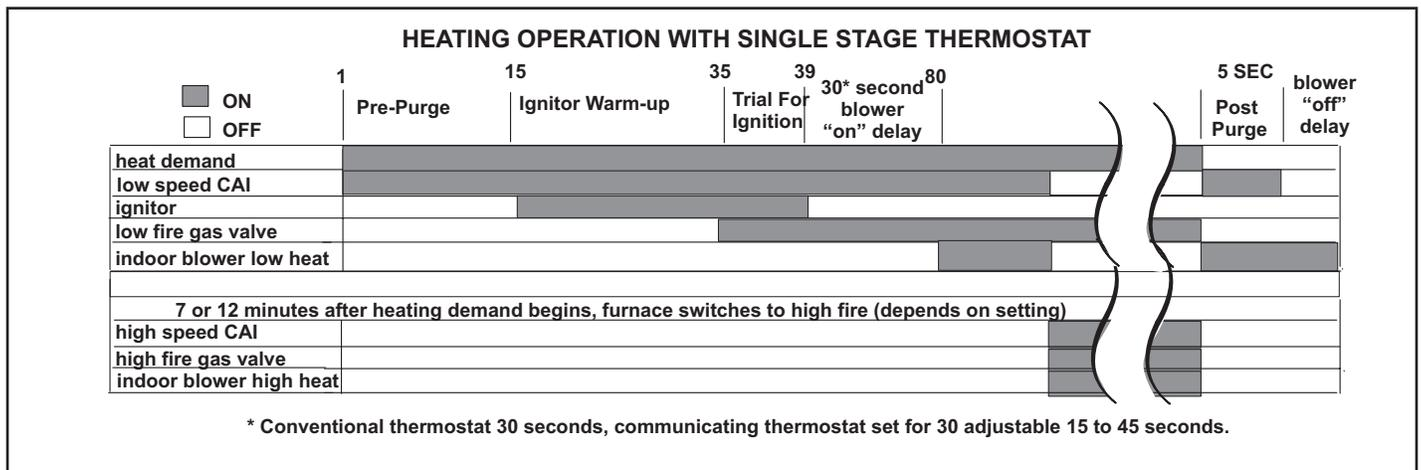

FIGURE 63
**Applications Using A Single-Stage Thermostat See figure 63 for ignition control sequence**